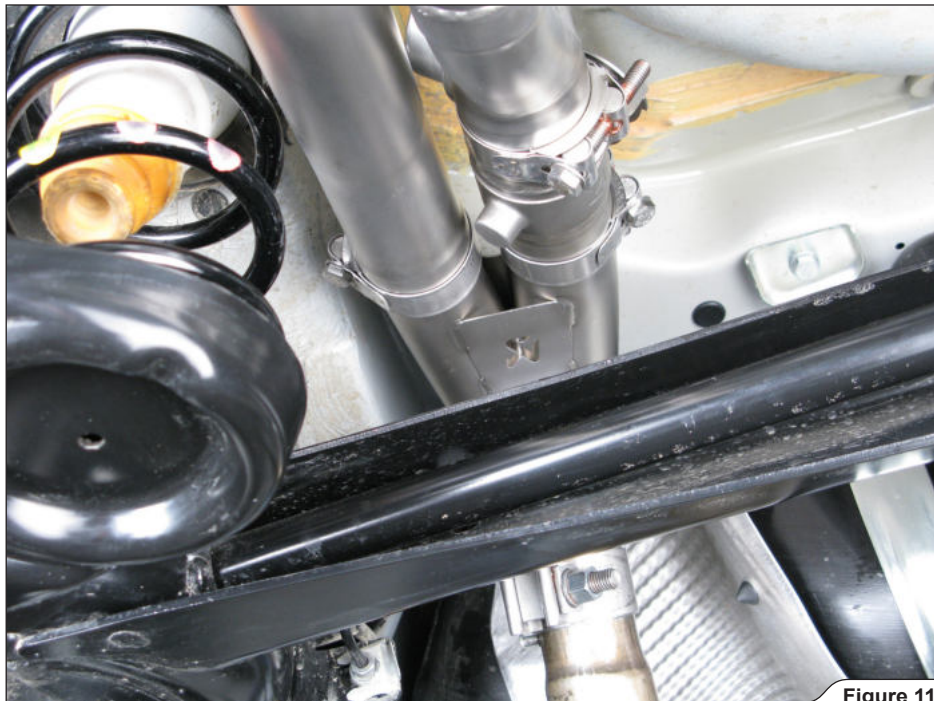

Figure 11
7. **For optional wireless kit only:** rotate the link pipe with exhaust valve and orient the clamps as shown (Figure 11).
! **IMPORTANT:** in case the tail pipes can't be centered in respect to the bumper's outlets, repeat the adjustment of original pipe-middle pipe-muffler inlet pipes joints (**Figure 11**).